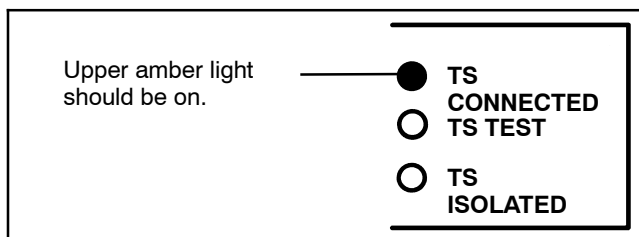
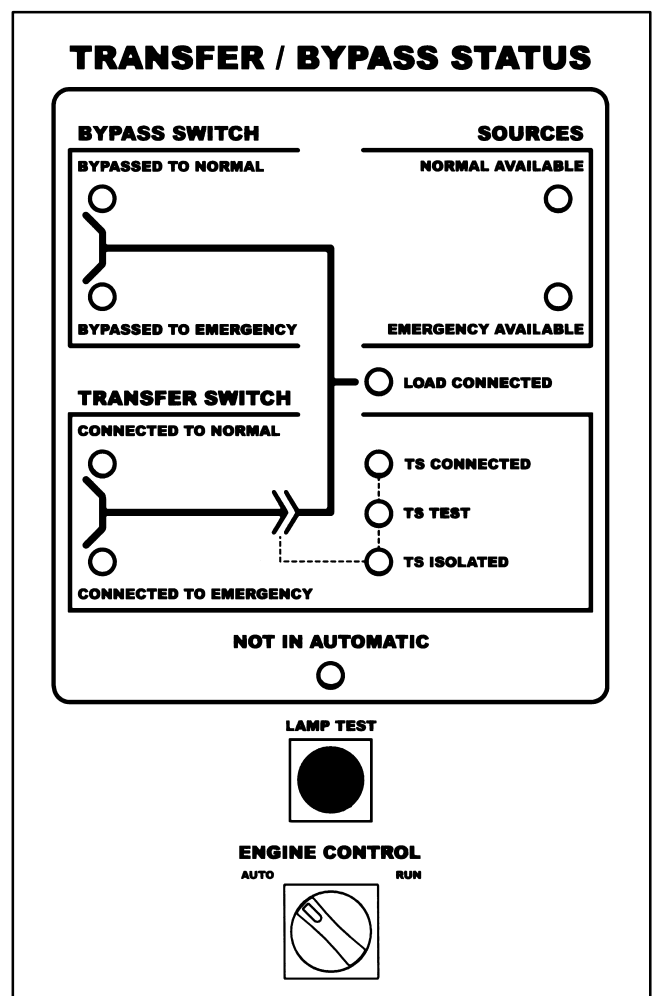

Figure 7-30 Status Lights for Transfer Switch Isolation Contact Position
Figure 7-32 Status Lights and Engine Control
- The TS Connected light must be on. See Figure 7-30 and Figure 7-32.